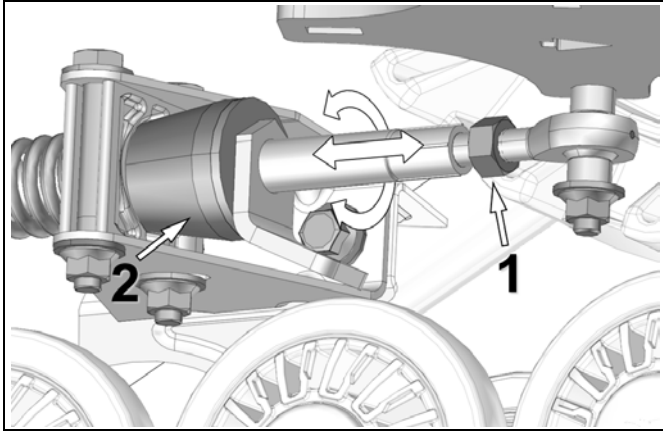

Figure 16
- Loosen jam nut (1). Rotate the stabilizing arm to adjust length of rod end so that no pressure is applied to the rubber cone (2). Refer to Figure 16.